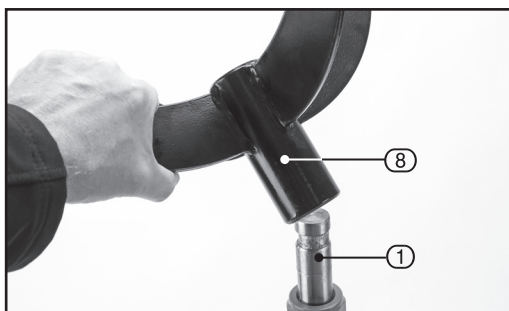

FIG.5
8.3 ATTACHING THE CRADLE – FIG. 5